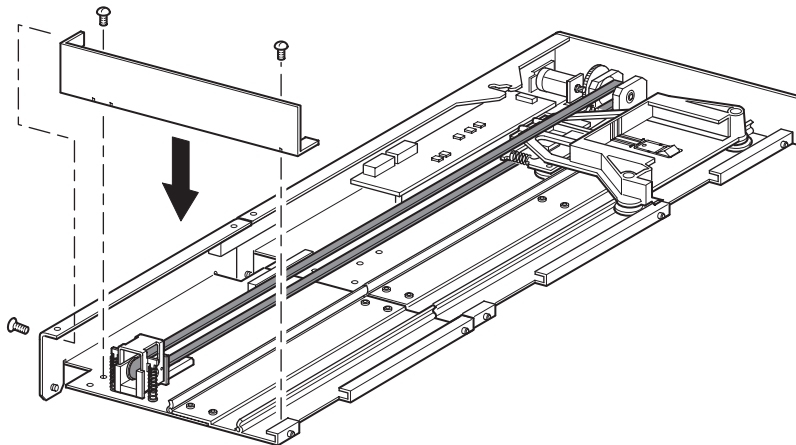

Figure 2-17. Installing the bottom plate
11. Install the bottom plate that was previously removed from the PTM base unit using the previously removed retaining screws (see Figure 2-17).